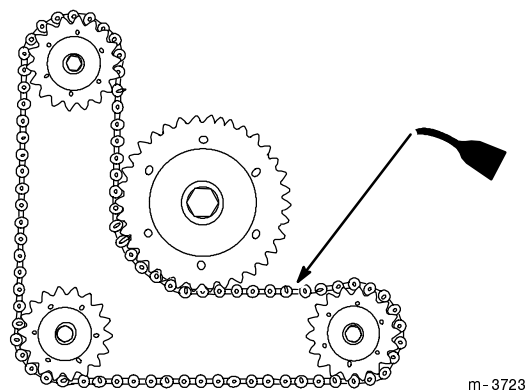

Figure 36
2. Coat the entire chain with oil and allow it to penetrate each roller (Fig. 36).